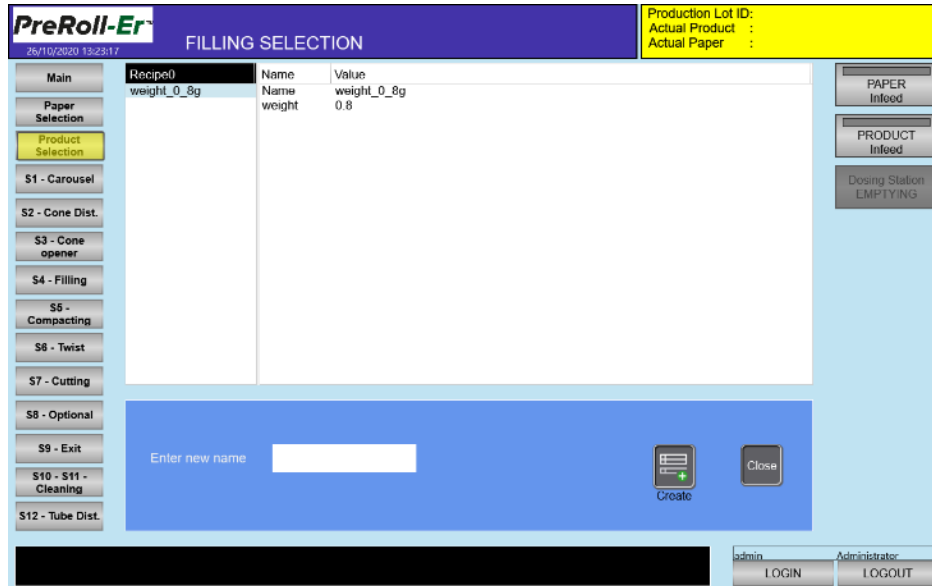

Figure 6-7 Create new recipe screen
2.1. **Create new recipe:** By clicking on it, a new screen is displayed as shown in Figure 6-7.
2.2. **Save selected recipe as:** By clicking on it, the same screen is displayed as shown in Figure 6-7.